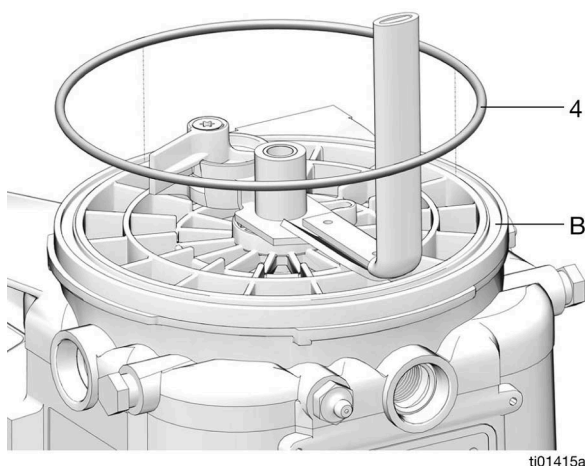

FIG. 10
1. Coat new o-ring (4) with grease (user supplied)
2. Install o-ring in groove of ricer plate (B) (FIG. 10).